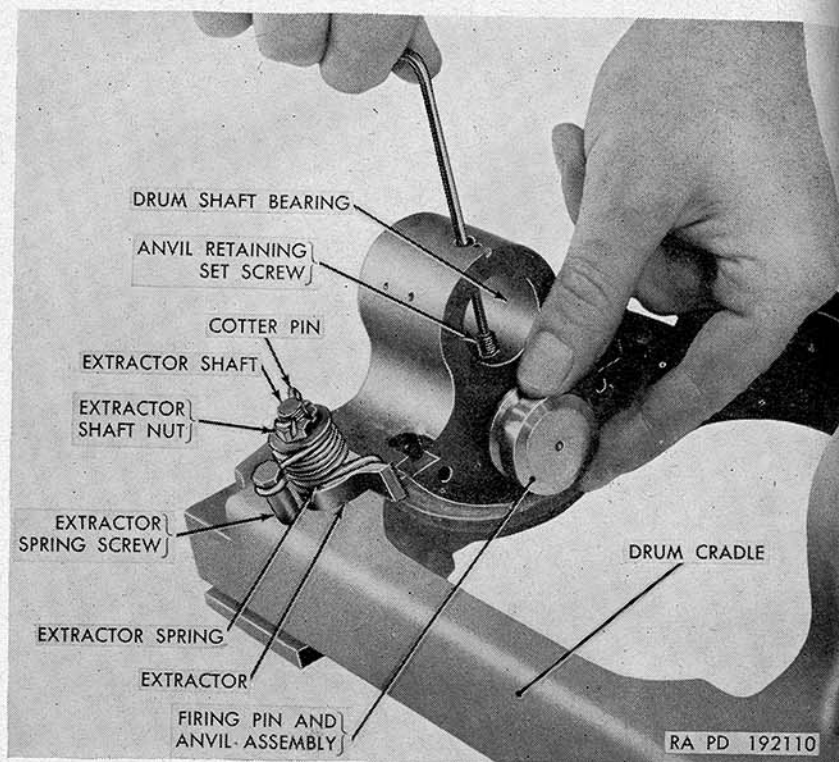

Figure 70. Removal of firing pin and anvil assembly from drum cradle.
- (1) Remove the anvil retaining set screw by means of the hole provided in top of the drum shaft bearing (fig. 70).
- (7) Tighten extractor shaft nut and install and secure cotter pin (fig. 70).
- (2) Screw anvil retaining set screw (fig. 70) to retain anvil in position.